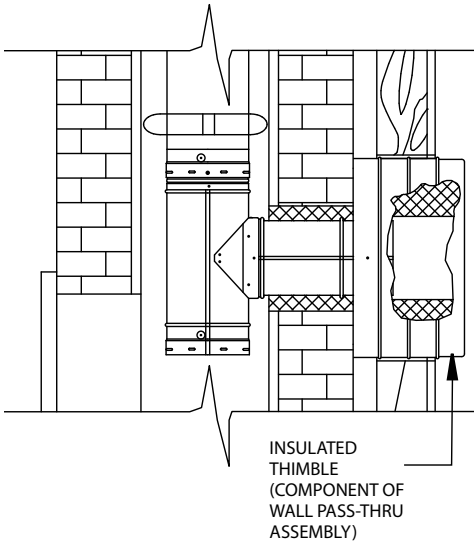

Figure 44
Step 11: Slip the Trim Collar over the Wall Thimble. Place a small level along the top of the Rigid Section. By small vertical movements of the Wall Thimble and Pipe, level the assembly as shown in **Figure 44**. When it is level, mark the holes in the Collar. Screw the trim collar to the wall, with wood screws or dry wall fasteners, as appropriate.